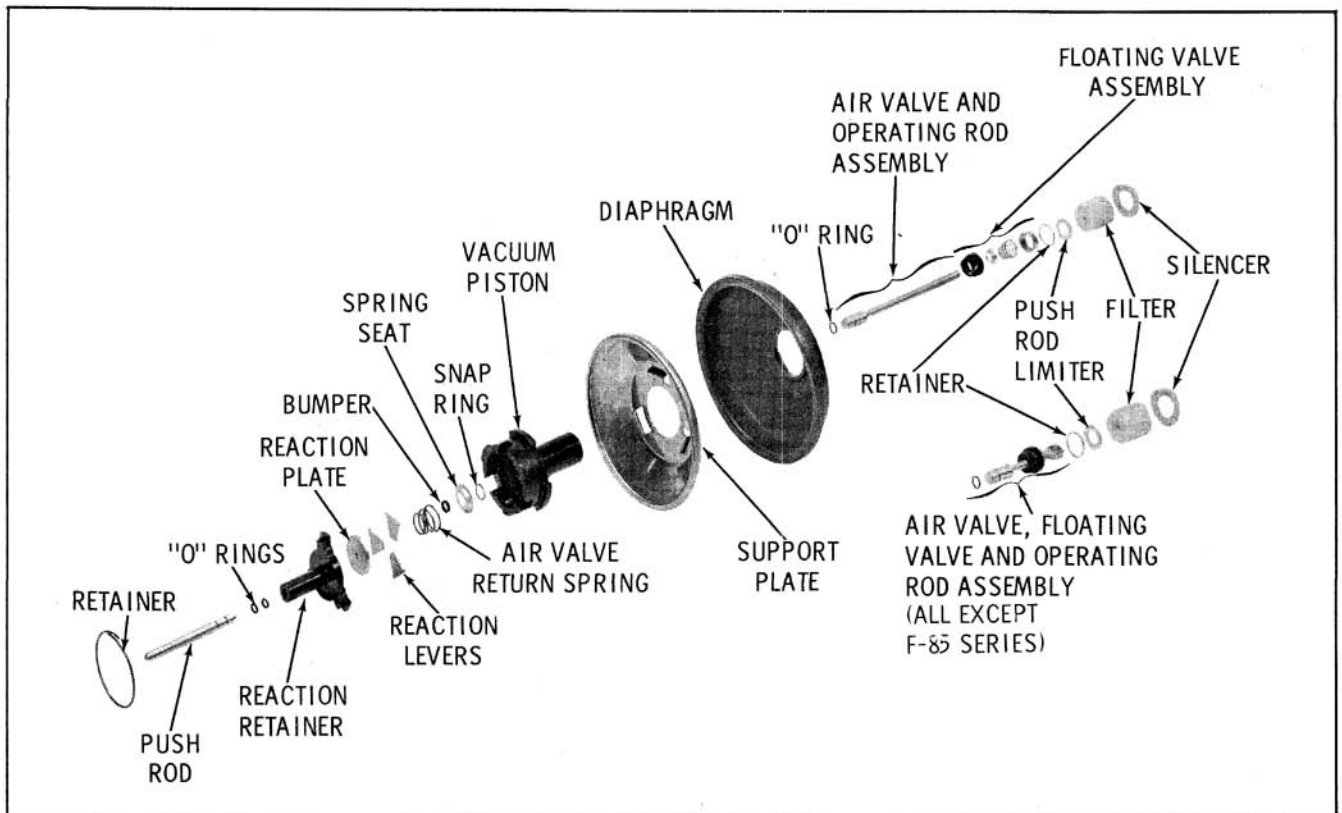

Fig. 11-33 Vacuum Piston Assembly
**DISASSEMBLY OF VACUUM PISTON (Fig. 11-33)**